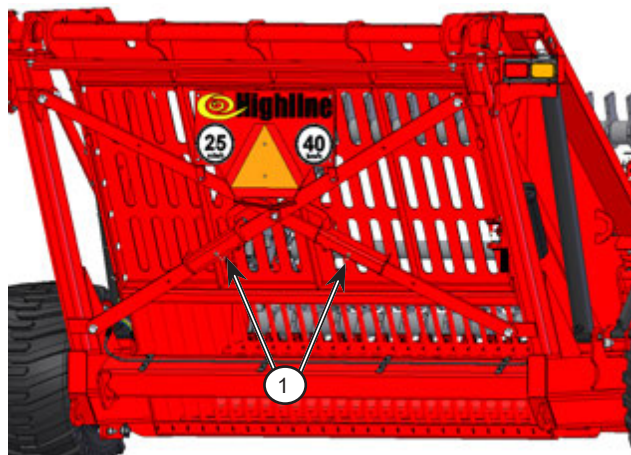

Figure 4.18: Remove the bucket lift locks from the storage position
- b. Remove the bucket lift locks (1) from the storage position on the rear cross-bracing of the machine; see *Figure 4.18*.